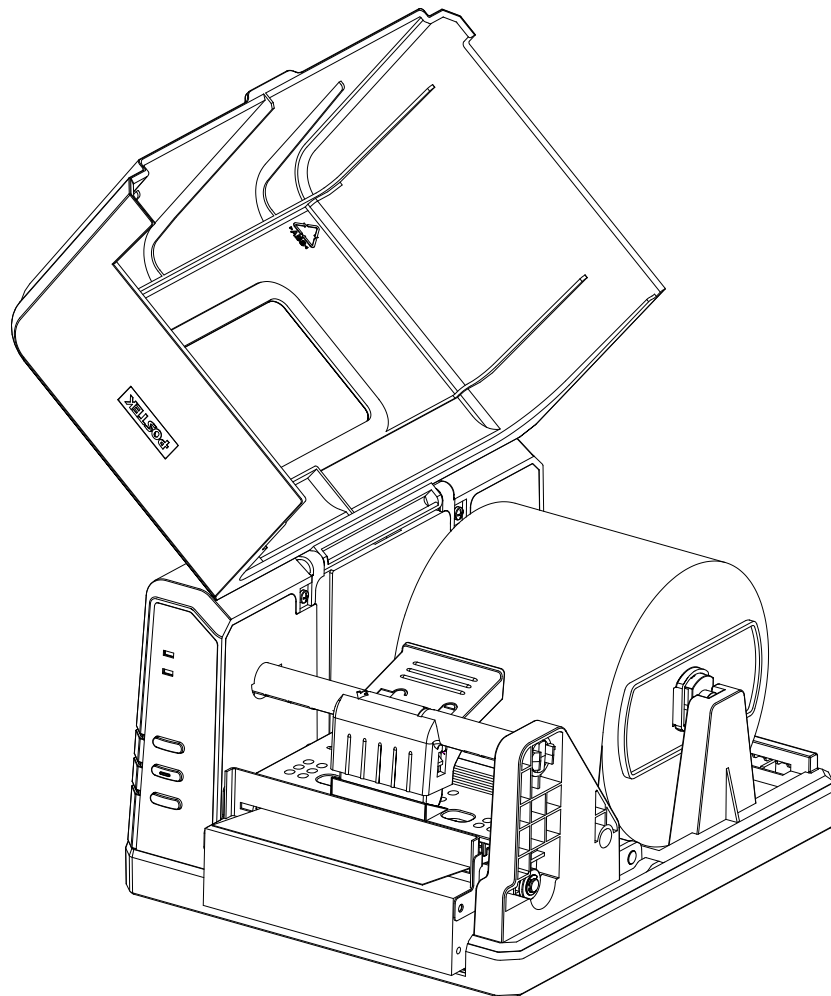

Figure 5-7
4. Load media as shown in Figure 5-7. The Guillotine Cutter is now ready to use.